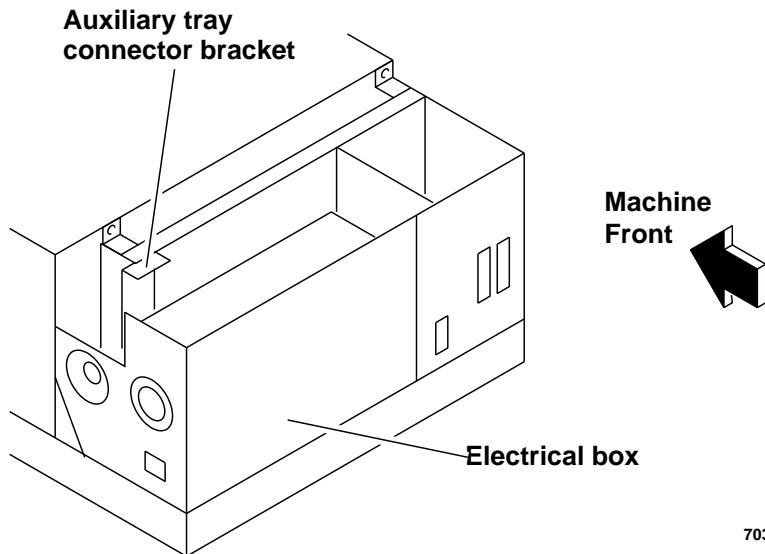

Figure 5. Auxiliary tray bracket removal
- e. Remove auxiliary tray connector bracket (Figure 5).